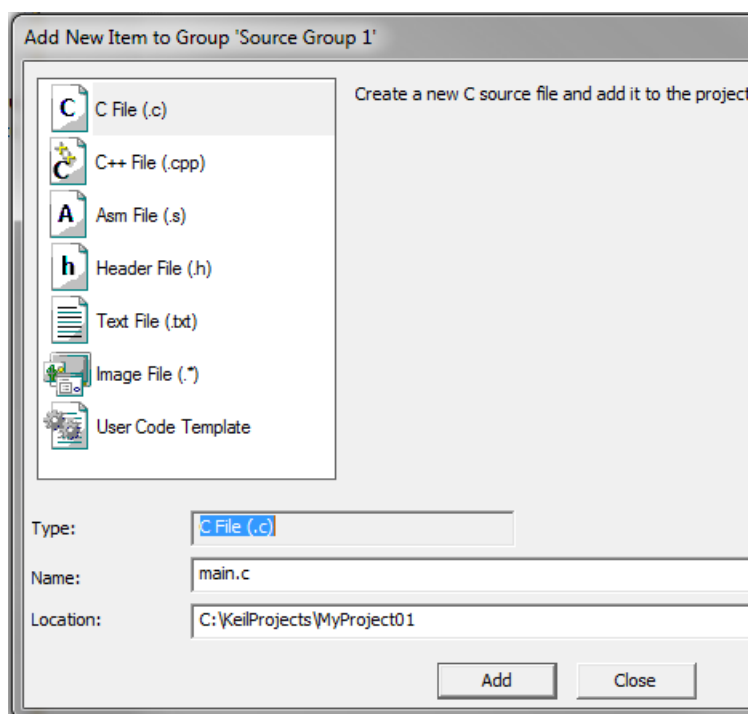

Figure 1-26. Adding new source file dialog
2. Select the C File (.c) option, and type a name of the file into the Name box, for example 'main.c'. See Figure 1-26.